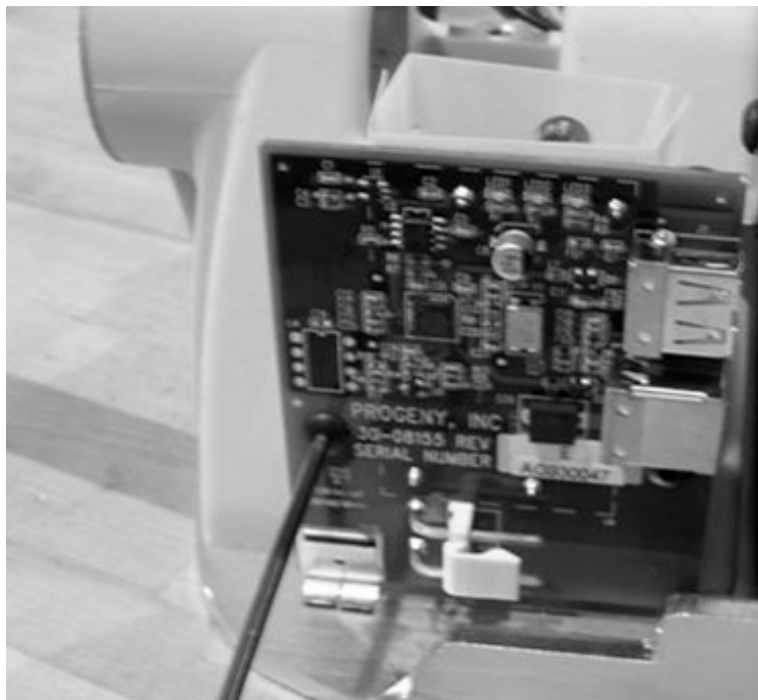

Figure 12: Attaching the USB Hub
16. Use the 2.5 mm hex wrench to attach the USB Hub (part #30-08155) to the plastic standoffs with two screws as shown on Figure 12.